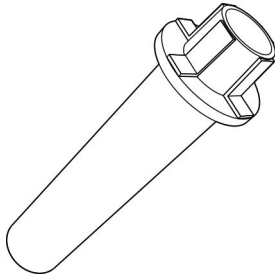

Fig. 61: Cone head cleaner (HSK 25 example)
8. ➔ Insert the cone cleaner (Fig. 61) in the tool holder and turn it 2 – 3 times.